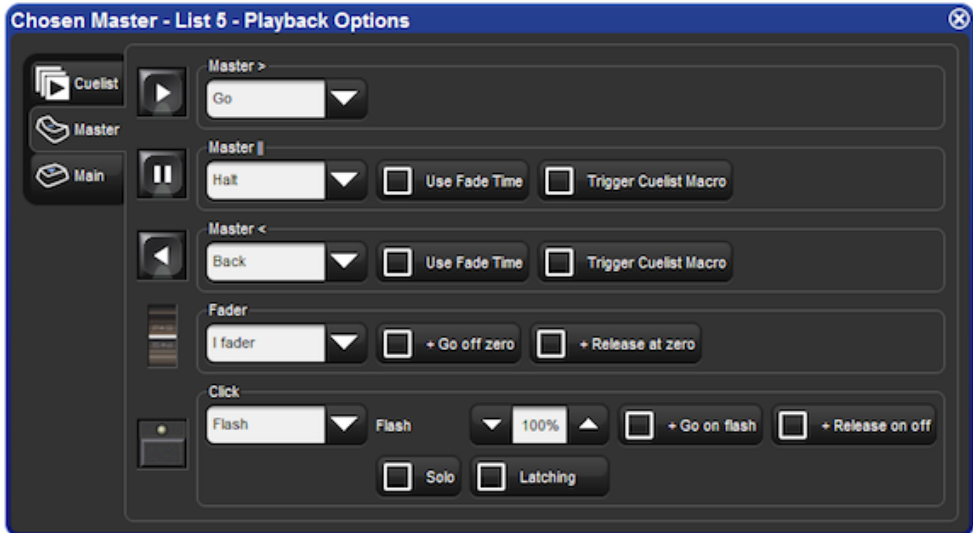
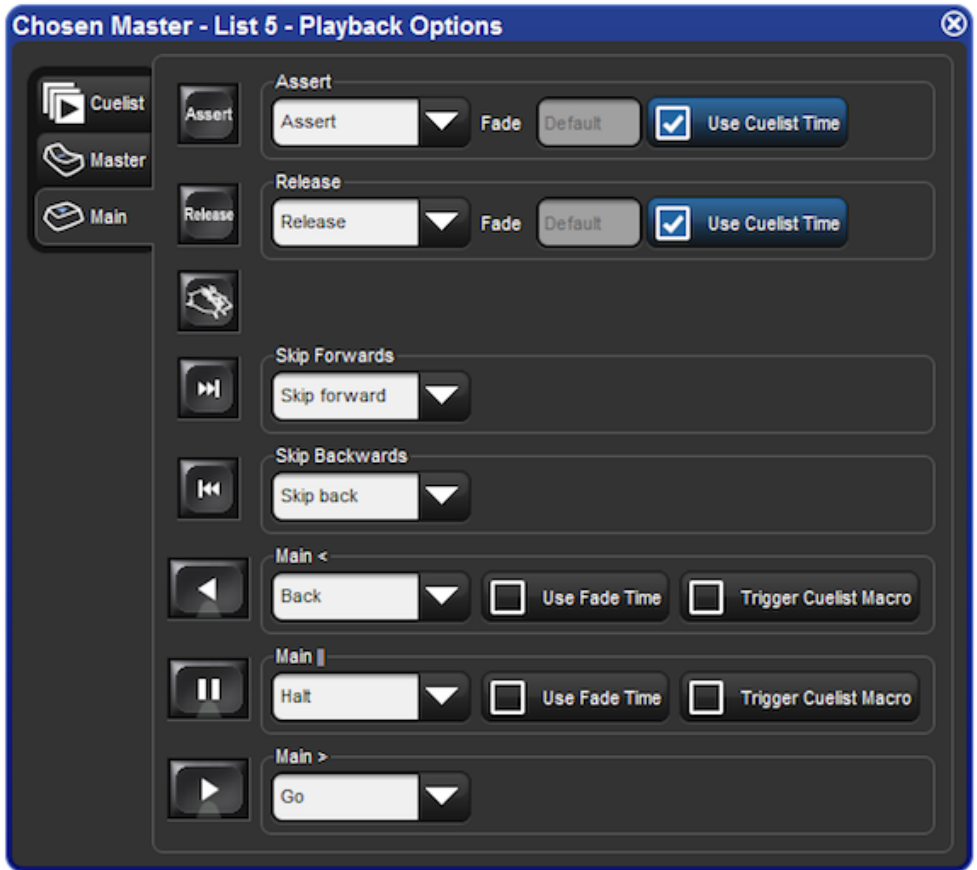

Figure 17.10. The Master pane of the Cuelist Options window
Figure 17.11. The Main Controls pane of the CueList Options window
3. Under Controls, select the Master or Main Controls pane; see *Figure 17.10, "The Master pane of the Cuelist Options window"* and *Figure 17.11, "The Main Controls pane of the Cuelist Options window"*.